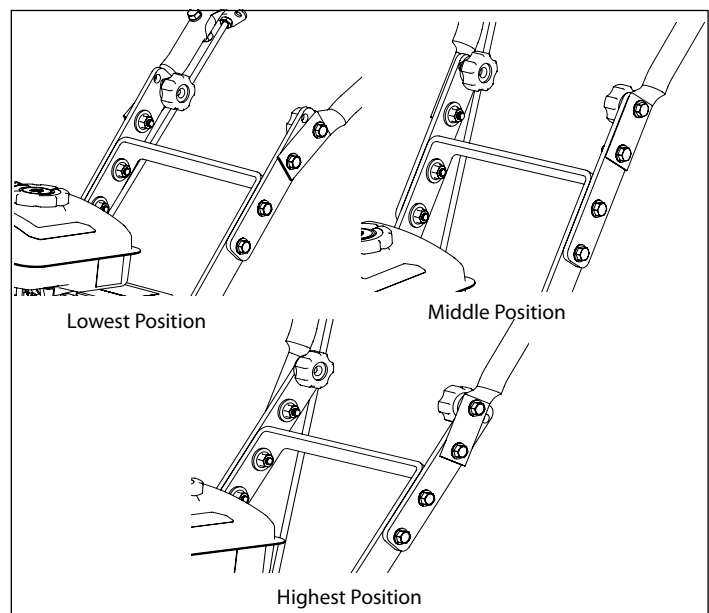

Figure 3
4. Assemble the upper handlebar onto the lower handlebar loop. Use the two (2) middle handlebar straps to connect the upper handlebar to the lower handlebar loop. Put the M8 bolts through bolt holes from the outside in. Put on six (6) washers and tighten with six (6) M8 nuts on the six (6) lower bolts. Tighten the two (2) M8 hand knobs on the two (2) upper most bolts on each side of the handlebar. **SEE FIGURES 1 AND 2.** The two (2) upper bolts and hand knobs can be used in one of three hole positions for handlebar height adjustability. **SEE FIGURE 3.**